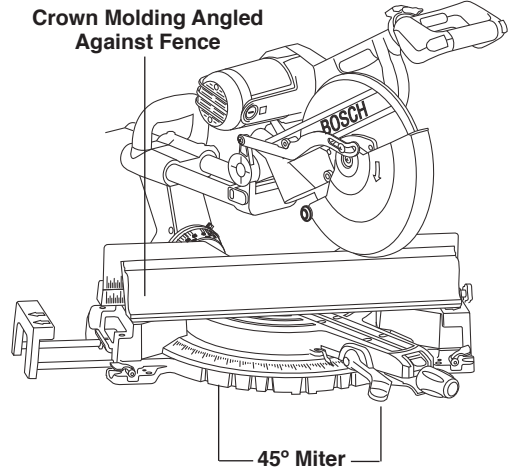

Figure 40. Crown Molding Angled to Table and Fence
2. For 90° corner, set the miter angle using Chart below. Tighten the miter lock knob (Figure 40).